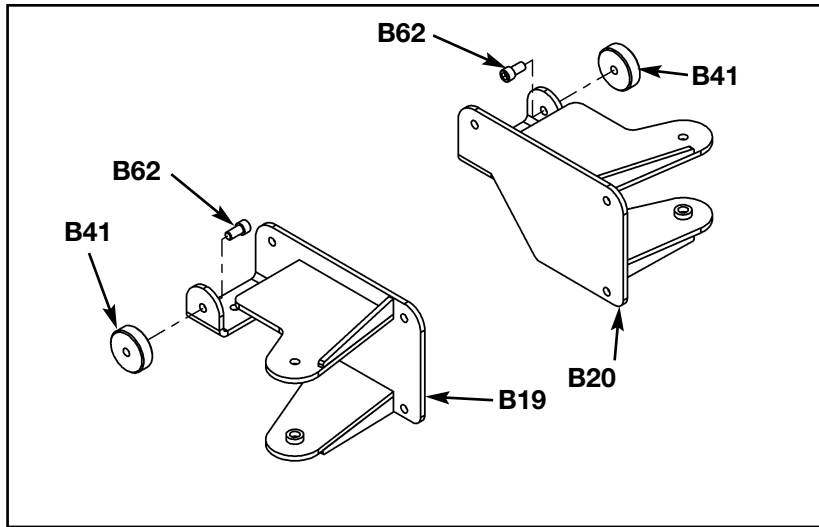

Figure 7
**4. Install left and right pivots** (see steps 4A - 4F and Figures 7 - 9).
- B.** Attach bumpers (#B41) to pivots (#B19 and #B20) using two SHCS .375-16 x .750 (#B62) as shown in Figure 7. Securely tighten hardware.